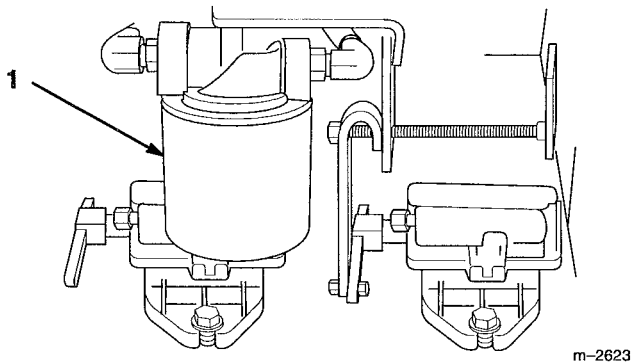

Figure 29
2. Place drain pan under filter, remove the old filter and wipe the filter adapter gasket surface (Fig. 29).